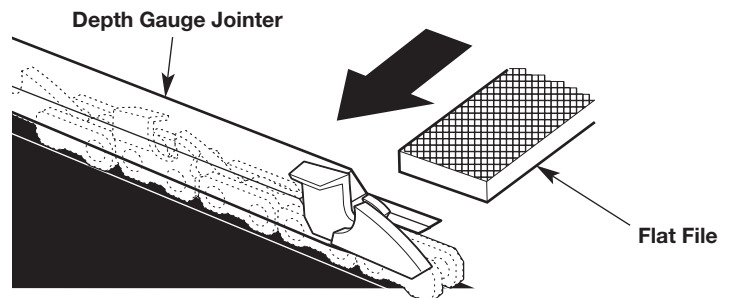

Fig. 42
- Use a depth gauge tool (not included) to measure the depth gauge clearance (Fig. 42) of each cutter. The depth gauge clearance must be maintained at 1/32 inch (0.6 mm). The depth gauge clearance determines the depth at which the cutter enters the wood during operation and the size of the wood chips produced. Too much clearance increases the chance of kickback. Too little clearance decreases the size of the wood chips, thus decreasing the ability to cut.
- Use a 0.025 inch (0.635 mm) depth gauge jointer and a flat file (tools not included) to lower the depth gauge to the correct clearance (Fig. 42).